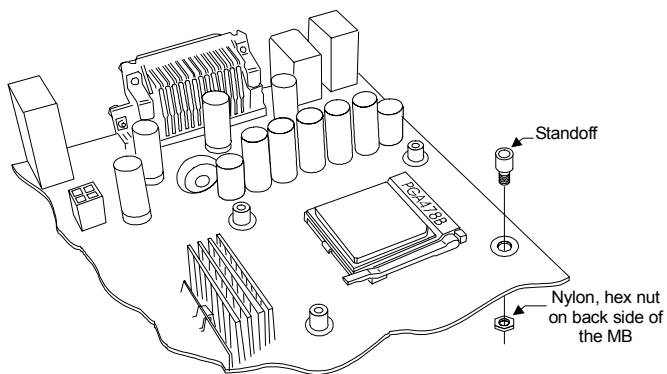
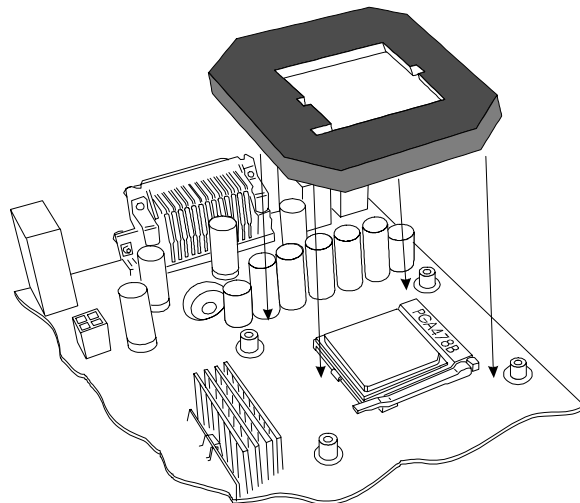

Figure 1
Figure 2
- Remove the peel-off paper back from the motherboard gasket, and install it as shown Figure 2. The sticky side should be towards the motherboard.
The following applies mostly to dual processor installations. Depending on the orientation of the socket, it is critical to observe the position in which your water-block is oriented for bleeding purposes. Assuming that the computer is standing up, and that the water-block is facing you as shown in Fig.1 and Fig 2. below, Fig. 1 shows the two positions in which the MCW478-UT will bleed correctly, and Fig. 2 shows the two positions in which the MCW478-UT will **not** bleed.
1. Bleed the water-block prior to installing on the CPU. Simply rotate the block in the position shown in Fig. 1.